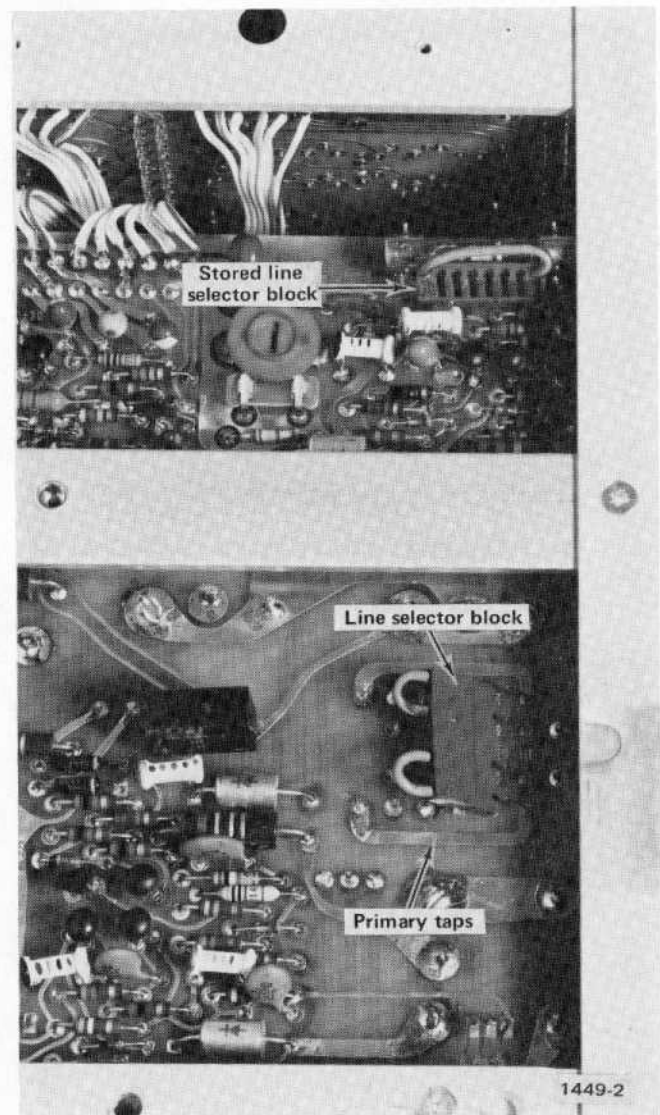

Fig. 1-3. Location of the line-selector block on the Power Supply circuit board.
3. Convert from 120 volts to 220 volts nominal line voltage, or vice versa, remove the line-selector block from the square-pin connectors (see Fig. 1-3) and replace it with the other block. Remove the line fuse from the fuse holder located on the rear panel and replace it with one having the correct rating. The unused line-selector block and line fuse can be stored on the Power Supply circuit board. Change the line-cord power plug to match the power-source receptacle or use an adapter.